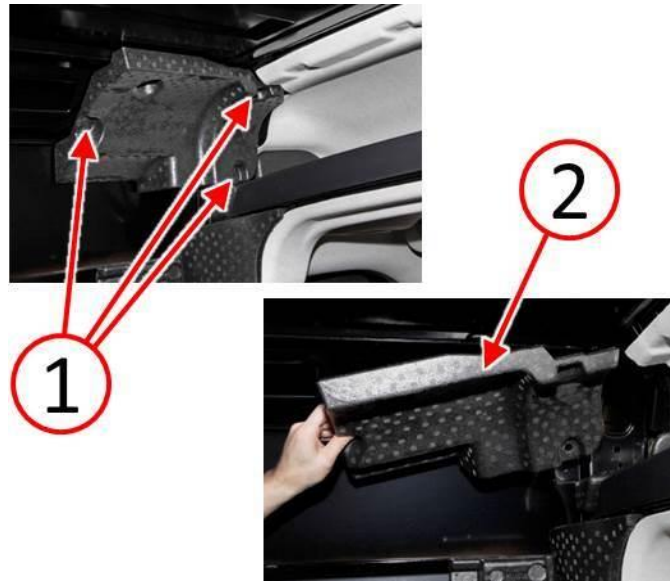

Fig. 10 Remove Roof Absorber
1. Remove the push pins (1) from the left side roof absorber (Fig. 10).
2. Remove the left side roof absorber (2) from the vehicle (Fig. 10).